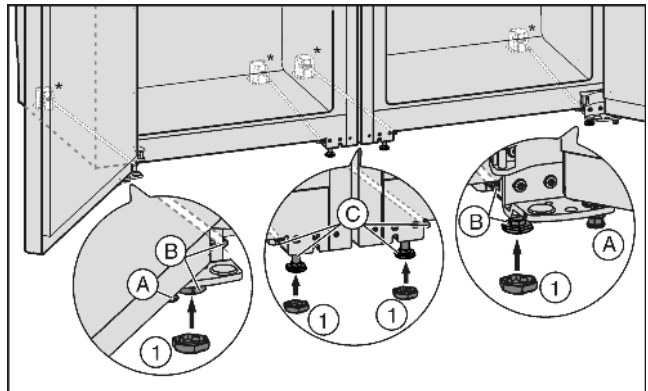

Fig. 20
- Lower the centre height-adjustable feet Fig. 20 (C) until they touch the floor.
- Then support the door: Extend the height-adjustable feet Fig. 20 (A) at the turn hinge until they are resting on the floor, then turn them further by 90°.